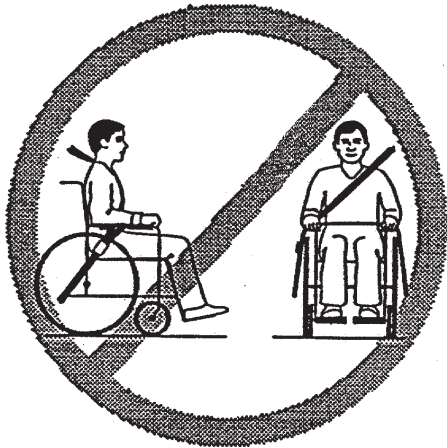

FIGURE 3 - FIGURES INDICATING IMPROPER POSITIONING OF OCCUPANT RESTRAINT(S)
3. Restraint belt(s) should not be held away from the body by wheelchair components or parts, including but not limited to wheelchair armrests or wheels, as shown in FIGURE 3.